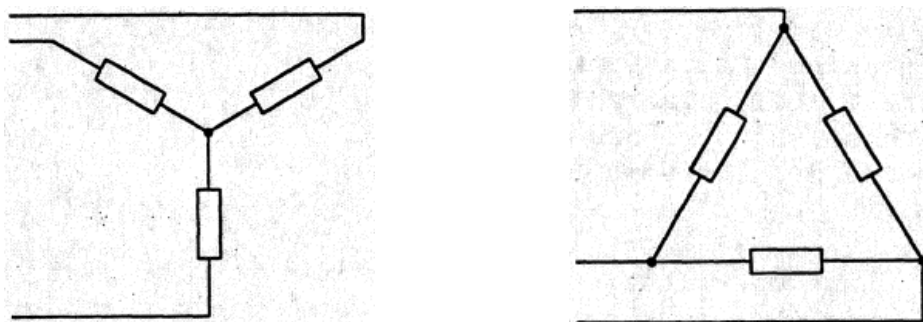

Figure 4 – Basic star and delta connections
- 15 Three phase devices can be connected in two main ways (also known as 'configurations') – star and delta. In American terminology star is called 'wye' and delta is called 'mesh'. The basic star and delta connections are shown in Figure 4.